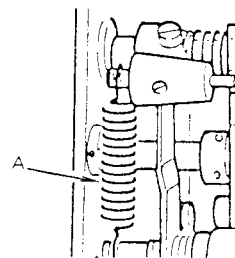

Fig. 52
- ☆ To replace the thread puller (Figs. 52 and 53)